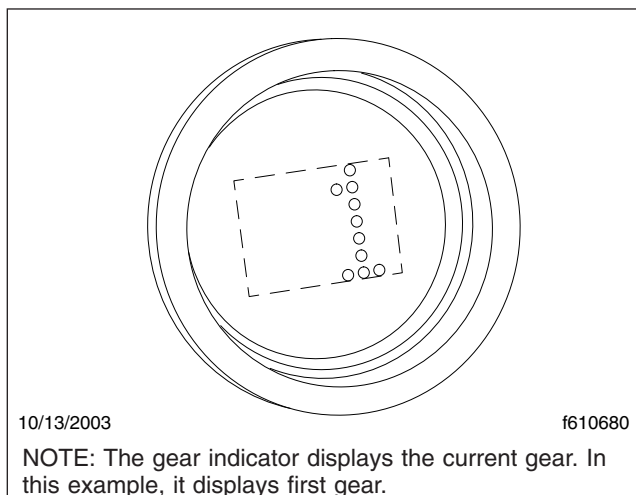

Fig. 15.3, Gear Indicator: Current Gear
In either mode, the gear indicator displays the current gear. See Fig. 15.3.
Drive (D) is located directly below N on the four-position gear selector switch on the SmartShift control lever. To select D, press in the neutral lock button and move the gear selector switch to the position below N. When D is selected, the number of the currently selected forward gear displays on the gear indicator. See Fig. 15.3.